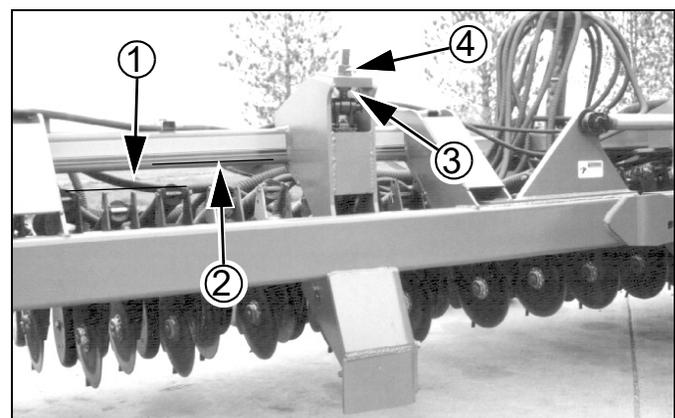

Figure 12
**Eyebolt Adjustment****Refer to Figure 12**